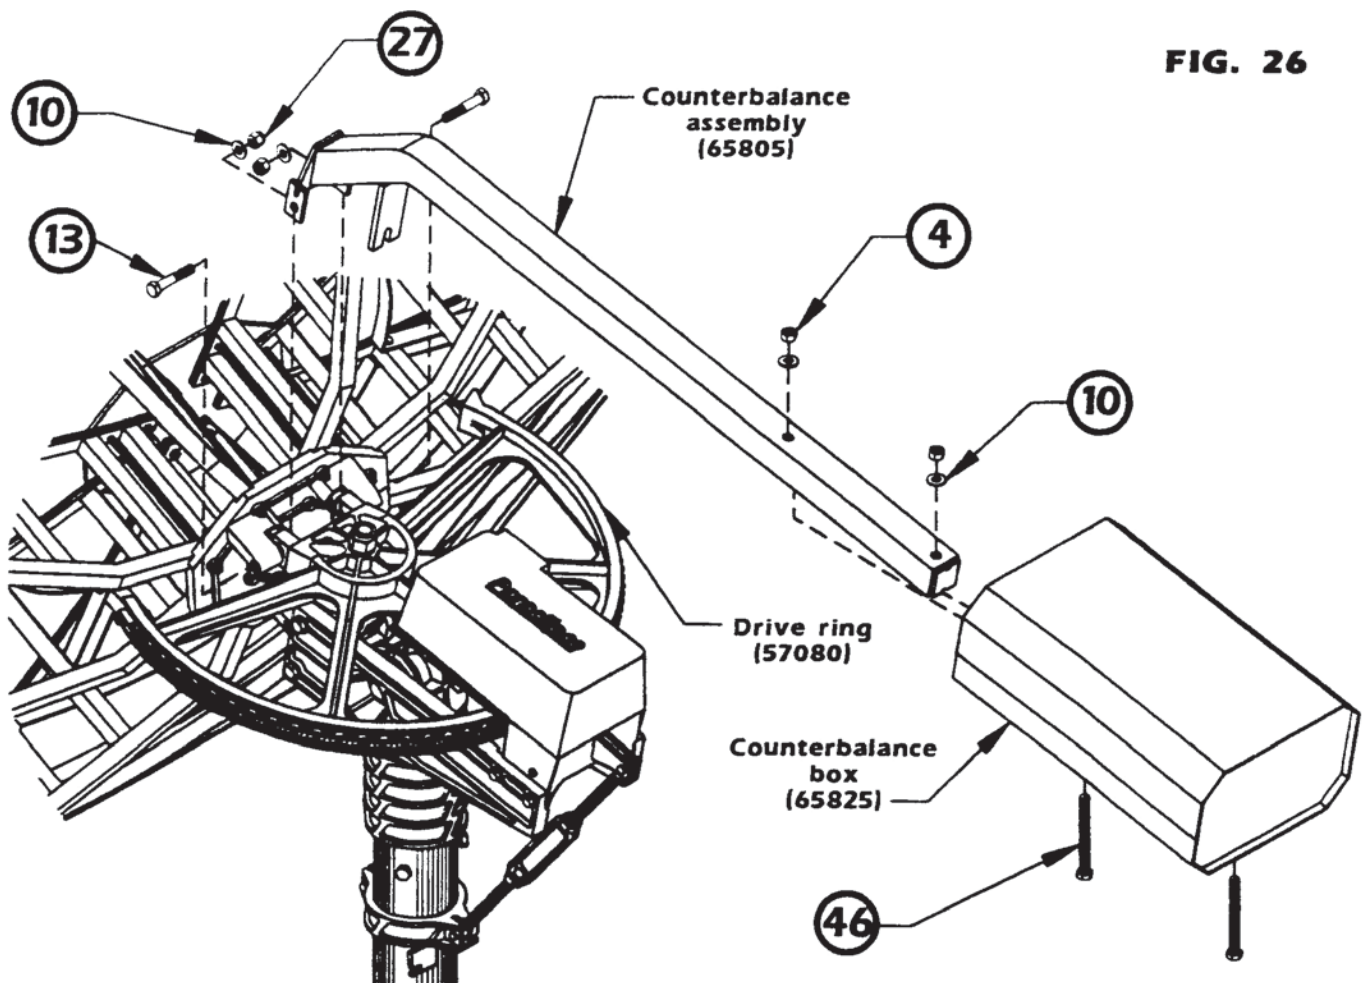

FIG. 26
1. Attach the counterbalance box to the counterbalance assembly using two $\frac{1}{2}$ " x 5" tap bolts, two $\frac{1}{2}$ " flatwashers, and two $\frac{1}{2}$ " nuts. Tighten. (See Fig. 26)
3. Attach the completed counterbalance to the drive ring using two $\frac{1}{2}$ " x 2 ³/₄" bolts, two $\frac{1}{2}$ " flatwashers, and two $\frac{1}{2}$ " nyloc nuts. Do not overtighten. (See Fig. 26)